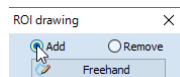

Figure 272 – Set Add/Remove mode for contour editing
2. Select the adding contour mode (see Figure 272). To add a drawn contour to the ROI, check the **Add** radio button. To remove a drawn contour from the ROI, check the **Remove** radio button.